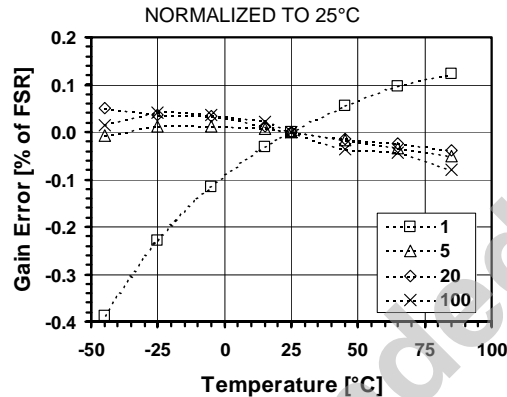

Figure 16-19. Gain error vs. temperature for different PGA gains
- Gain error is defined as the amount of deviation between the ideal (theoretical) transfer function and the measured transfer function (with the offset error removed). (See Figure 16-19)
Figure 16-19 shows gain error drift vs. temperature for different PGA gains. The curves are expressed in % of Full-Scale Range (FSR) normalized to 25°C.